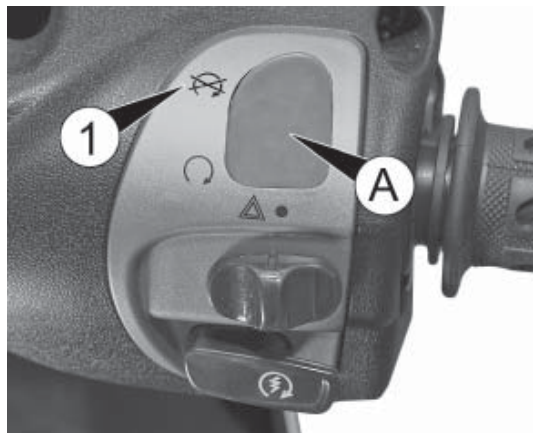

fig. 3
1. Press the stop engine command A fig. 3 in position 1, leaving the ignition key in  position